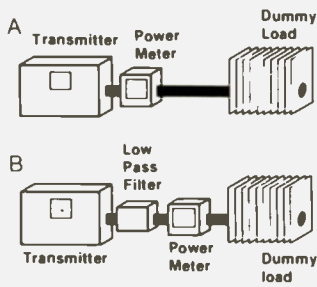

Fig. 21.
4. By installing one or more low pass filters in the transmitter antenna lead, you will reduce the chances of unnecessary harmonic radiation. A low pass filter allows frequencies up to 30 or 50 megahertz (MHz), depending on brand, to pass through unattenuated to the antenna while effectively shorting out harmonic radiation. To make this test, connect the equipment as in Fig. 21 and take a power reading. If only an swr bridge is available, calibrate it in the forward direction to